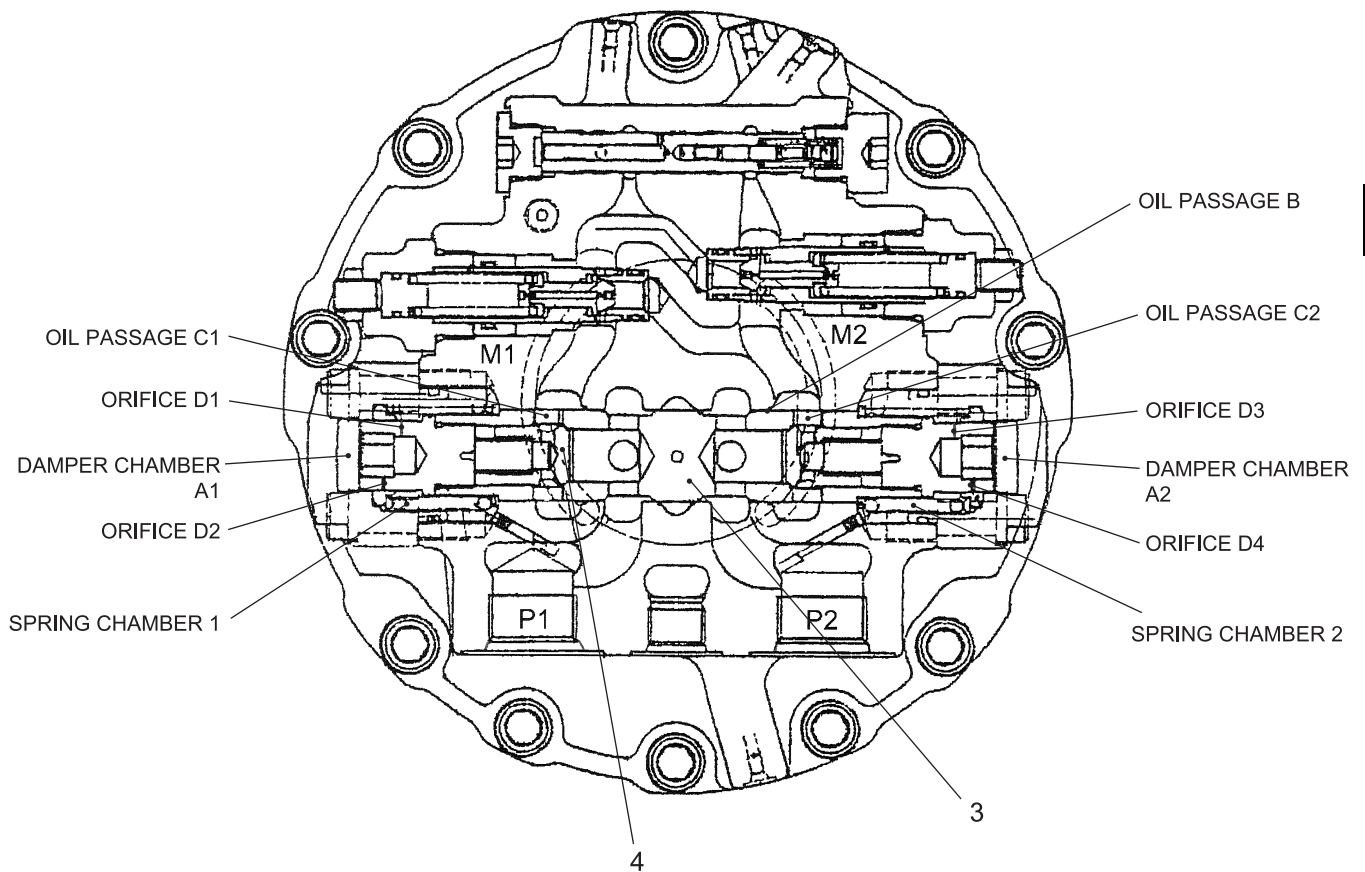

Fig. 24-70 Construction of double counter balance valve (stop condition)
- 1) Stop condition (See Fig. 24-70)